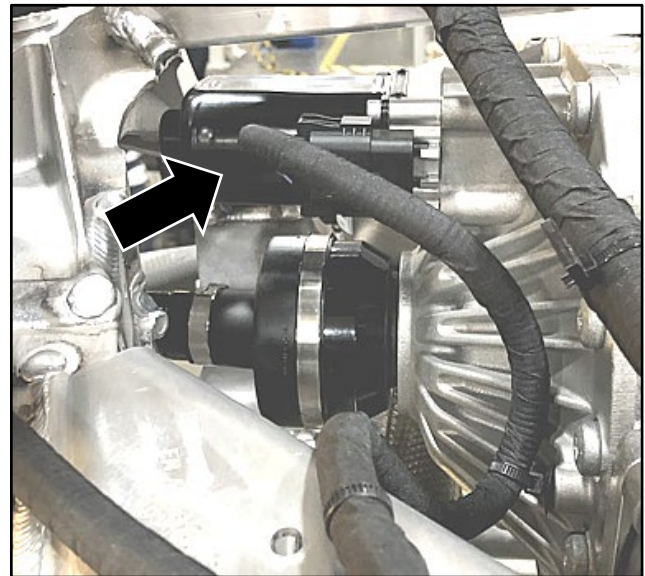

Figure 2
6. Examine the position active-differential wiring loom. The correct position is shown (refer to Figure 2).
- Disconnect the wiring loom and rotate it 360 degrees to the correct position (refer to Figure 2).